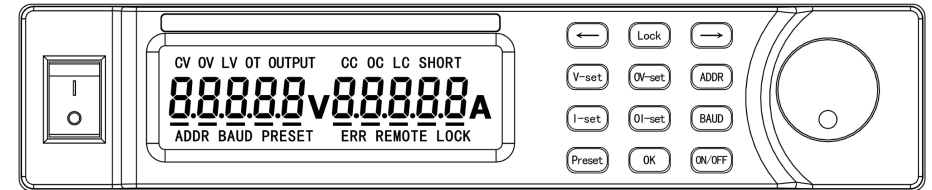
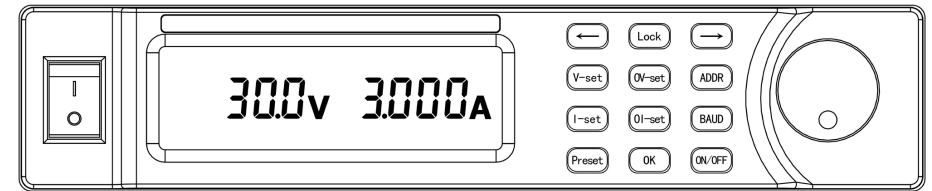
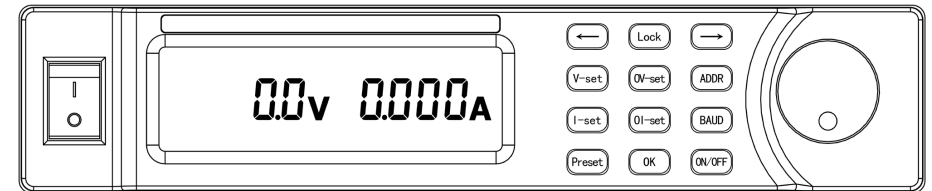

Fig.5-1
Fig.5-2
Fig.5-3
2. After power on, all characters on the display meter flash for a short time (refer to fig.5-1). Then the display meter displays the last voltage and current values before power off for a short time (refer to fig.5-2), and then the power supply enters standby mode (refer to fig.5-3).